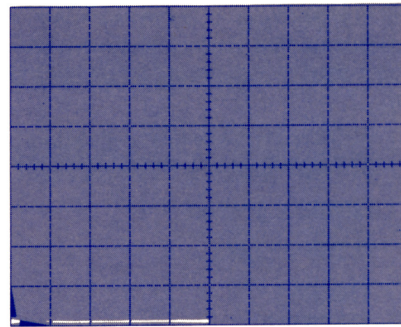

Figure 5-1. Display shows specified horizontal voltage.
- 2) Apply power to device – Position LEFT-RIGHT switch on 177 to appropriate side. Close protective cover, or press and hold INTERLOCK if necessary [NO]. *Slowly* increase VARIABLE COLLECTOR % supply until specified voltage (horizontal) is attained. [5 divs horizontal, or 1.0 V]. See figure 5-1. 34 35 8